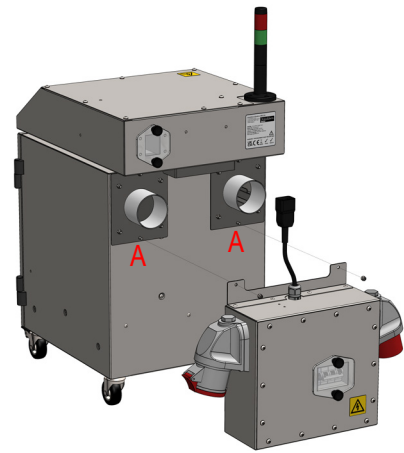

Figure 1
3. Using an M5 tool, remove the two lower bolts on the system's spigots (see point "A" on figure 1).